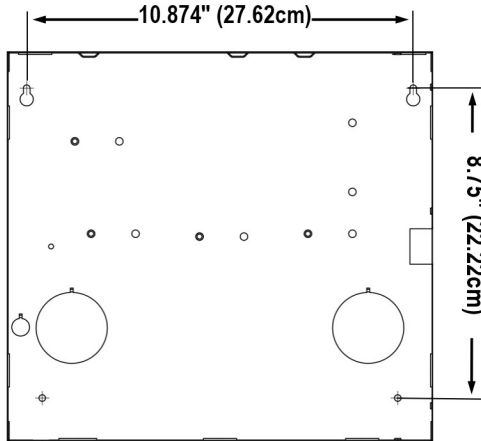

Figure 3 - NA-2 Cabinet Mounting Hole Dimensions
2. Mark the four mounting holes against the mounting surface using the NA-2 cabinet as a template or using the measurements provided in Figure 3.